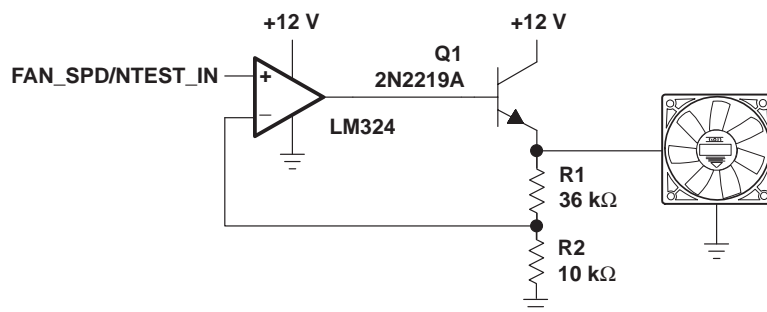
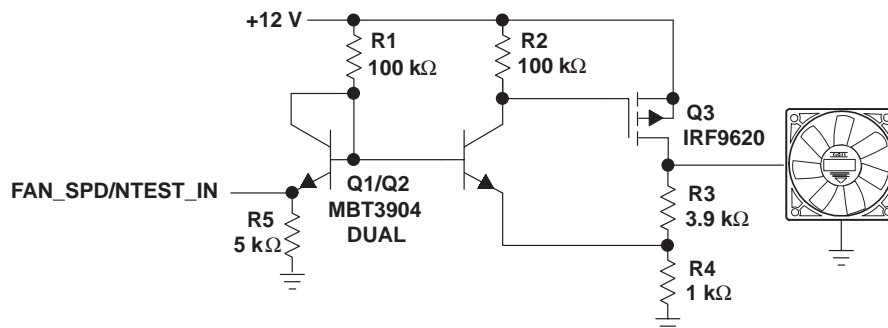
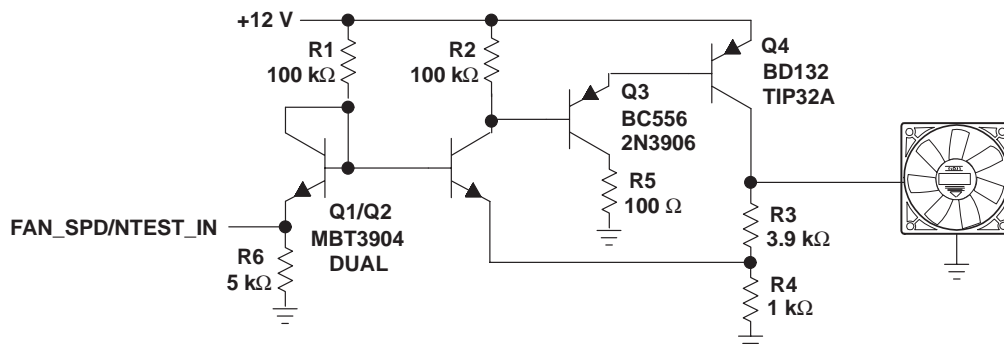

Figure 6. External Fan Drive Circuit Using 1/4 LM324 and NPN Emitter-Follower, Single Supply
Figure 9. External Fan Drive Circuit Using Discrete Components With P-Channel FET, Single Supply
Figure 11. External Fan Drive Circuit Using Discrete Components and PNP Output Transistor, Single Supply
The FAN_SPD output must be amplified with external circuitry in order to achieve an output voltage range of 0 V to 12 V and an output current of at least 250 mA in order to drive a cooling fan. Figure 6 through Figure 11 illustrate external circuits that can be used to drive a fan.
R5 in Figure 9 and R6 in Figure 11 are required to insure FAN_SPD/NTEST_IN is below the NTEST_IN enable threshold during power up. Without these pulldown resistors, the external fan drive circuit would cause the THMC50 to always power up in the NAND tree test mode. If an external fan drive circuit other than the ones shown above is used, insure that the FAN_SPD/NTEST_IN terminal is held below $0.3 \times VCC3AUX$ during power up to prevent the THMC50 from entering the NAND tree test mode inadvertently.
The circuits shown in Figure 6 through Figure 11 should be implemented with the following considerations:
- All of the circuits shown in Figure 6 through Figure 11 deliver an output voltage swing from near 0 V to near 12 V. The exception is the circuit in Figure 6, which is only able to supply a voltage up to a V_{BE} drop down from 12 V due to the emitter-follower drive stage.
- Insure that the FAN_SPD/NTEST_IN terminal is held below $0.3 \times VCC3AUX$ during power up to prevent the THMC50 from entering the NAND tree test mode inadvertently. A pulldown resistor, such as R5 in Figure 9 and R6 in Figure 11, may be needed for external circuits to source current into the FAN_SPD/NTEST_IN terminal to satisfy this requirement.